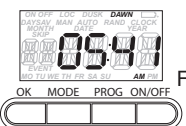

Fig. 5
16. Turn the knob to adjust the Dawn Time, (Fig. 5) if necessary and press **OK**.